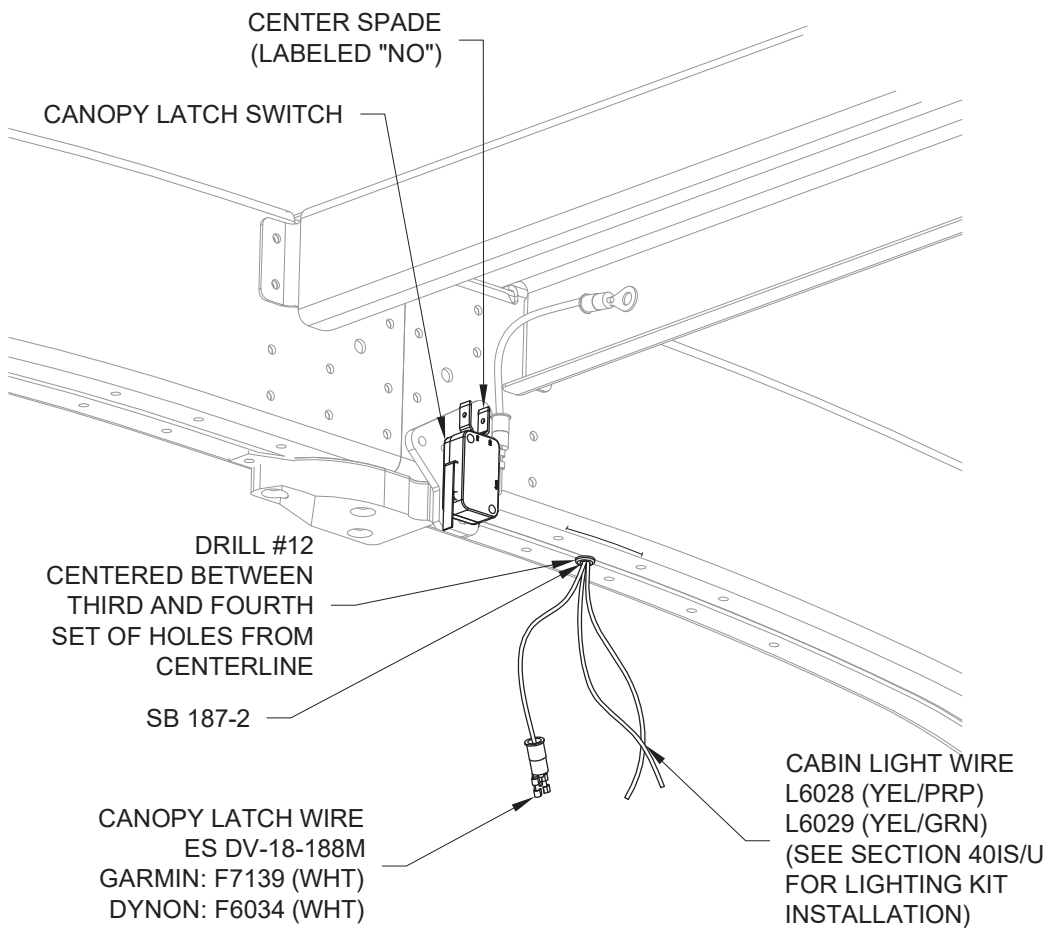

FIGURE 1: DRILLING ROLL BAR
- Tape the safety wire to the canopy latch and cabin light wires, then pull the wires through the F-12126 and up into the Roll Bar Assembly with the safety wire. Stop when the wires have exited the #12 hole as shown in Figures 1 and 2.
- Step 5: Crimp the ES DV18-188M Spade Terminal onto the canopy latch wire as shown in Figure 1.
- Step 6: Connect the spade terminal to the center spade (labeled "NO") of the Canopy Latch Switch as shown in Figure 1.
Step 1: Secure all wires of the main harness that pass through the F-01202B-1 in the two HW-00009 clamps on the F-01230-1 as shown in Figure 1.